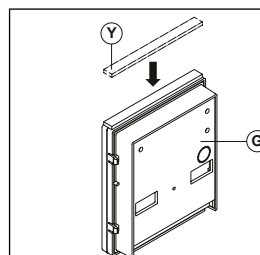
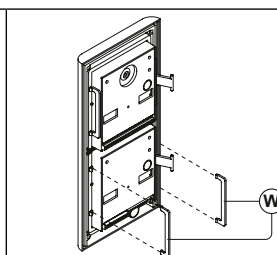

Fig. 5
Fig. 6
Apply the (Y) seal as shown in Fig. 5.
Fit the anti-tampering locks (W) as shown in Fig. 6.
4. Before installation of the module support frame, hook the modules **(G)** to the support frame **(H)** as shown in **Fig. 5** then, as shown in **Fig. 6**, fit the two anti-tampering locks **(W)** for each module (do the same for the second module support frame);